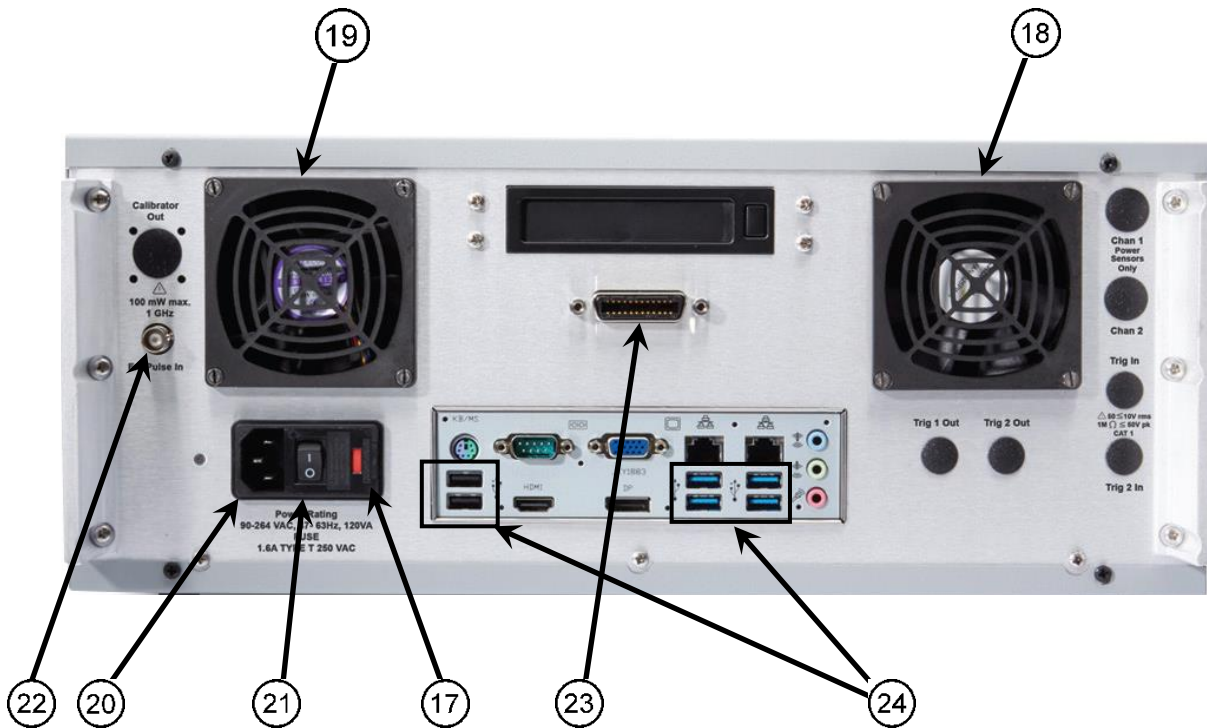

Figure 3-2. Model 4500C - Rear Panel (Shown without optional rear panel connectors)
The Model 4500C is equipped with a switching power supply that provides automatic operation from a 90 to 260 volt, 47 to 63 Hz, single-phase, AC power source. Power consumption is 90 VA maximum. For metric fuse sizes, use the metric fuse kit supplied. Connect the power cord supplied with the instrument to the power receptacle on the rear panel. See Figure 3-2.
9. Verify that the Instrument Serial Number matches the number on the label at the top center of the rear panel. See Figure 3-2. If an improper serial number appears on the screen, contact Boonton Electronics for technical support.
1. If the main power is off, press the power switch located on the rear panel. See Figure 3-2. If the STBY indicator LED on the front panel is on, press the PWR key. See Figure 3-1. After a self-check, the instrument will execute the application program. A brief initialization screen will appear, which shows the instrument name, model number, and software version. After several moments the main measurement screen will appear. If it is necessary to change the sensor installed on the instrument, perform Steps 2, 3 and 4.